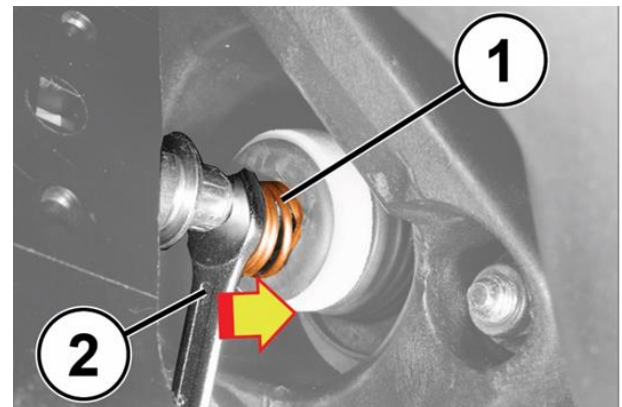

Figure 6 – Pushing Back Spring
- Push back the spring (1) with a 12 mm wrench (or alternatively by hand) (Figure 6).
- Use an 11 mm wrench for the brake pipe (2) (or alternatively use a 9 mm wrench) and lock the spring (1) in the push rod area: the spring must remain compressed (Figure 6).